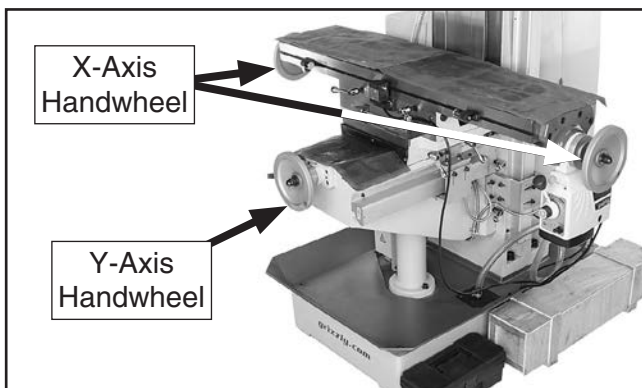

Figure 15. Locations of X-axis and Y-axis handwheels.
1. Install handwheel handles onto X-axis and Y-axis handwheels (see **Figure 15**).